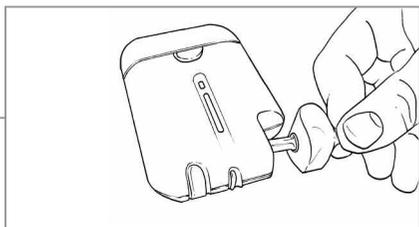

Figure 7
- Change your electrodes every five to seven days. Different skin types will provide for a longer or shorter life of the electrodes. If the alarm indicates a disconnection, it is likely that either the cable connection is incomplete or the adhesive (gel) on the electrode is no longer working and the electrodes need changing. Check all cable connection points, to make sure that the electrode cable is tightly plugged into the top of the **OrthoPak 2** Bone Growth Stimulator (Figure 7) and that the cable connectors are completely inserted into both electrode connectors. If all the connections are made and the symbol indicates a disconnection, it is probably time to change the electrodes.